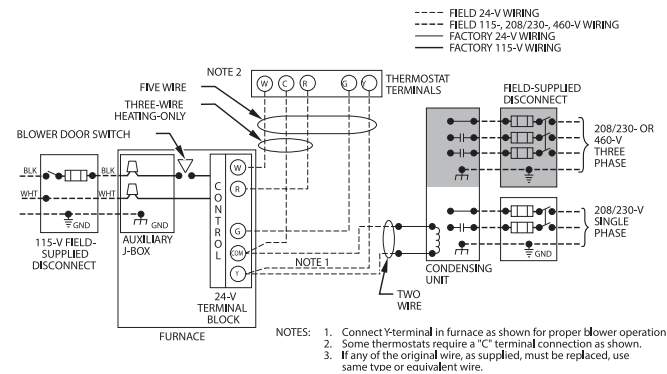
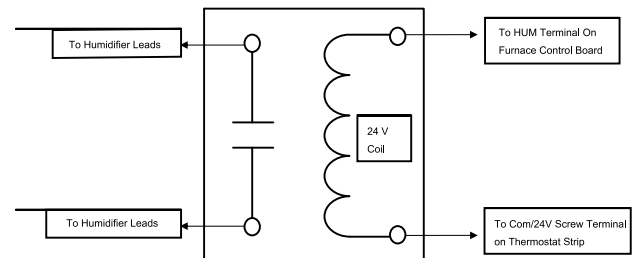
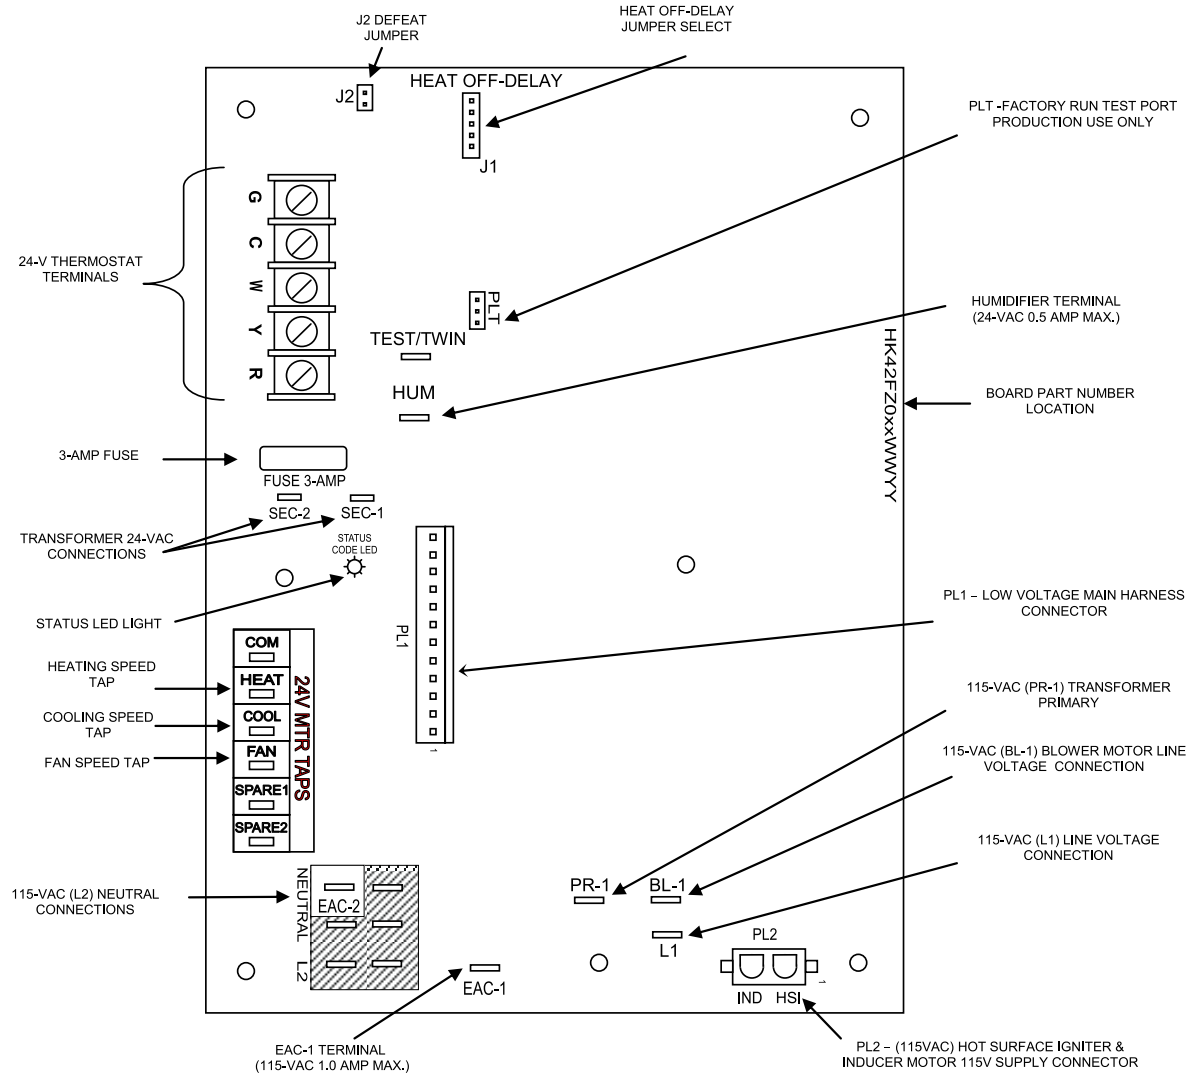

Fig. 33 – Typical Single-Stage Wiring Diagram
Fig. 37 – Field-Supplied Isolation Relay for Humidifiers with Internal Power Supply
Fig. 38 – Example of Single Stage Furnace Control
See Fig. 33 for field wiring diagram showing typical field 115V wiring. Check all factory and field electrical connections for tightness.
6. Connect power cord power and neutral leads to furnace power leads as shown in Fig. 33.
5. Connect field power and neutral leads to furnace power leads. as shown in Fig. 33.
Make field 24V connections at the 24V terminal strip. See Fig. 38. Connect terminal Y as shown in Fig. 33 for proper cooling operation. Use only AWG No. 18, color-coded, copper thermostat wire.
The 24-v circuit contains an automotive-type, 3-amp. fuse located on the control. Any direct shorts during installation, service, or maintenance could cause this fuse to blow. If fuse replacement is required, use ONLY a 3-amp. fuse of identical size. See Fig. 38.
(See Fig. 37 and Fig. 38)
NOTE: If the humidifier has its own 24VAC power supply, an isolation relay may be required. Connect the 24VAC coil of the isolation relay to the HUM and COM/24V screw terminal on the control board thermostat strip. See Fig. 37.